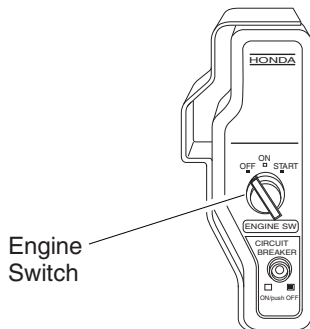

Figure 18 - Engine Switch
3. Turn engine switch to the OFF position (see Figure 18).